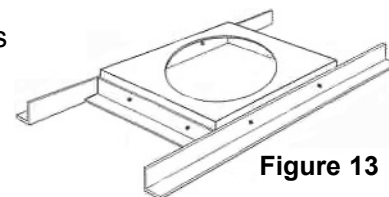

Figure 13
- A tee (RT with a tee cap, RTC) should be used at the lowest point of the liner. A welded angle iron frame (by others) mortared into the chimney walls should be used with the support assembly. (See Figure 13.) Through-bolt the support assembly into the frame with 1/4"-20 nuts and bolts (by others) in all holes. Place the supporting collar in the groove at the bottom of the tee just above the locking ring. (See Figure 1.) Tighten the screw so that the collar is firmly clamped into position in the groove. The tee is ready to fit into the support plate.